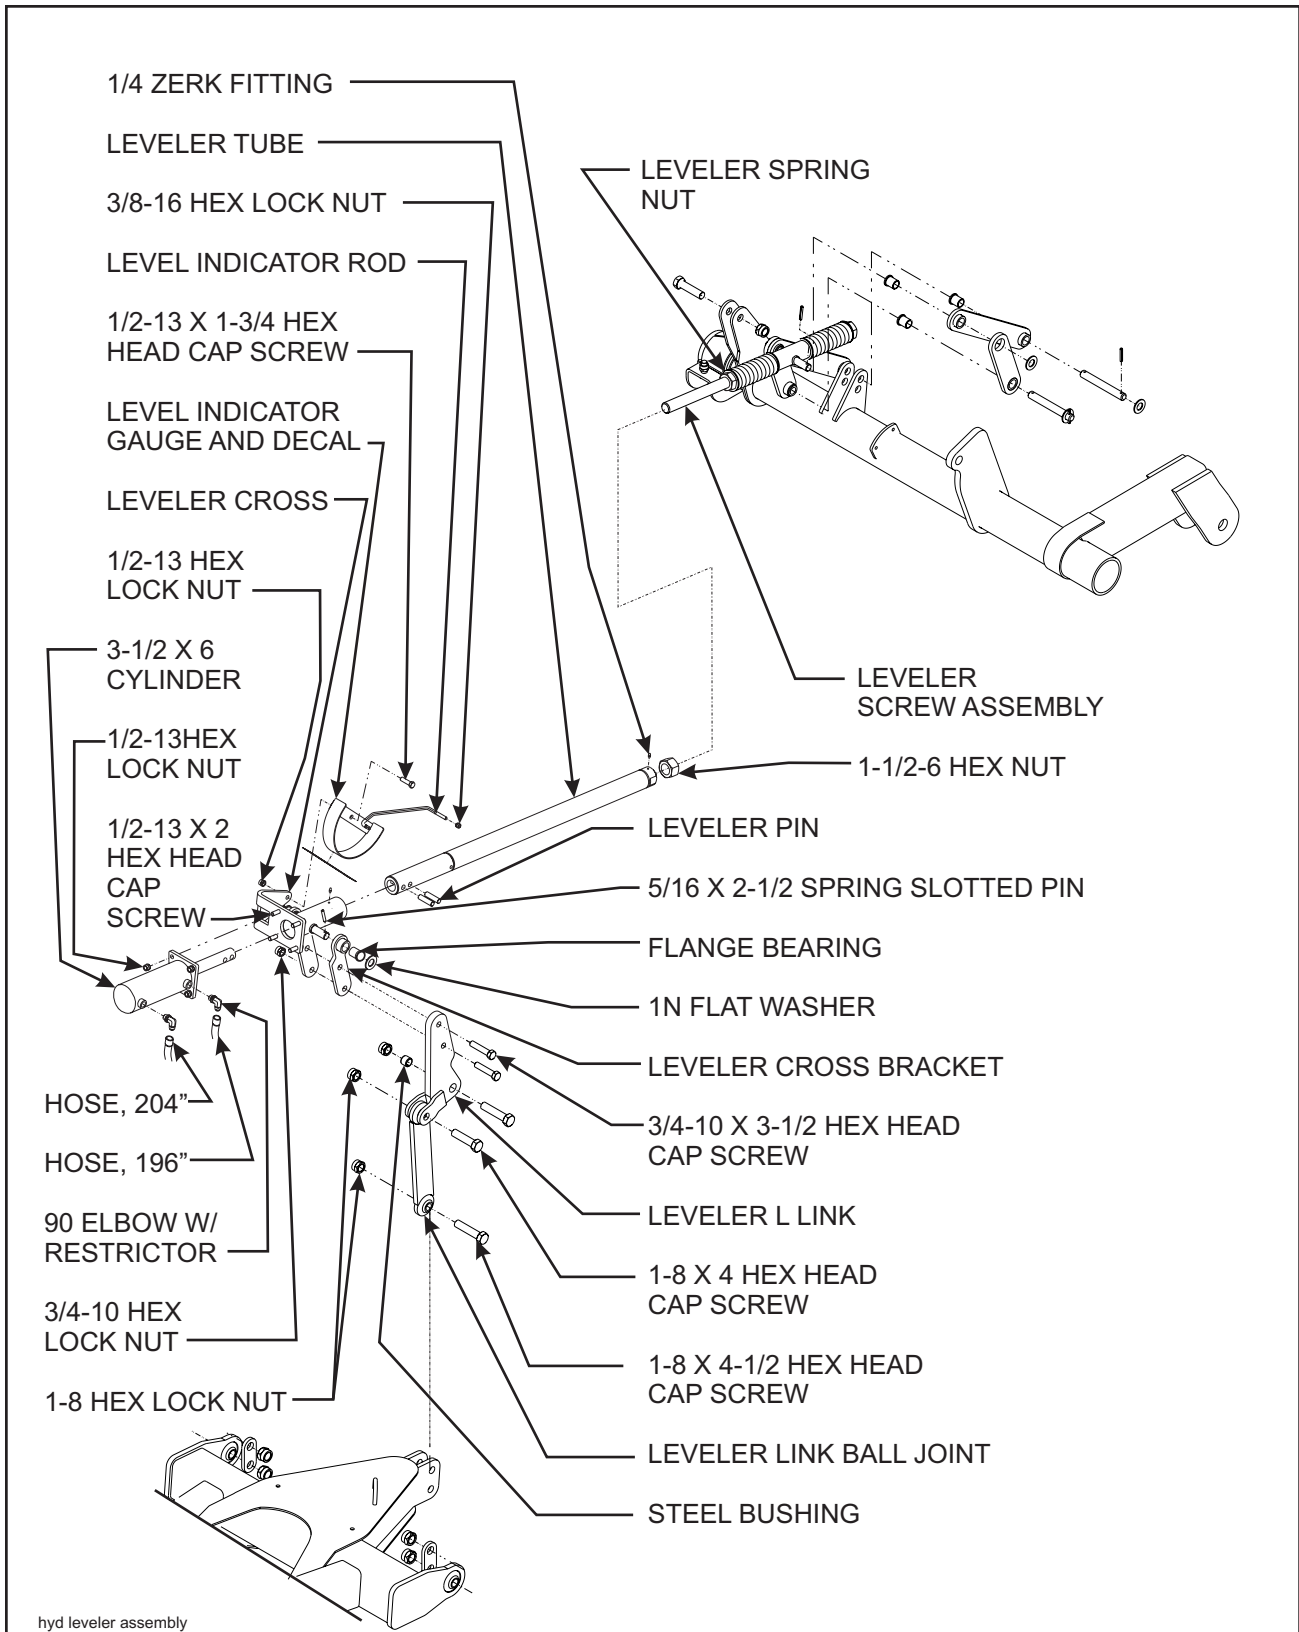

Figure 3-4 Hydraulic Leveler Installation
- 3-4.1** Thread a 1-1/2-6 hex nut onto the leveler screw assembly (**See Figure 3-4**). Initially leave approximately 5" of threads visible between the 1-1/2-6 hex nut and the leveler spring nut. Further adjustment may be required.